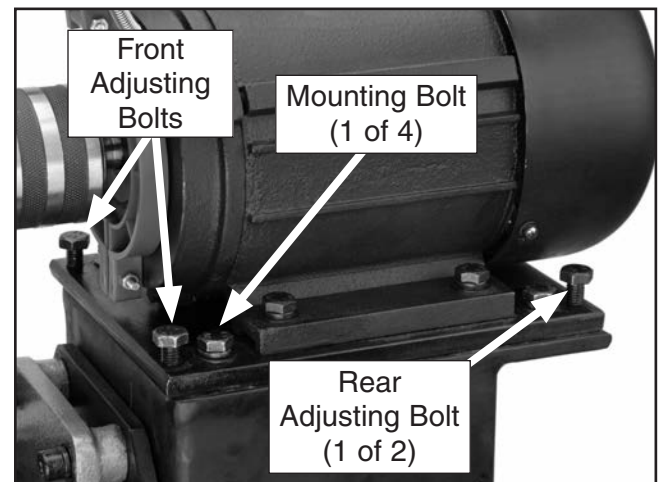

Figure 33. Bolts for adjusting motor angle.
3. Loosen the four mounting bolts that secure the motor to the stand (see **Figure 33**).
4. Tighten or loosen the front and rear adjusting bolts (see **Figure 33**) in pairs as needed to raise or lower the front or back of the motor.